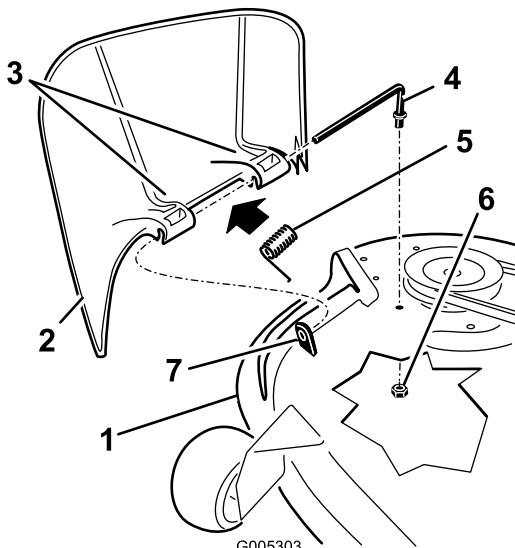

Figure 57
1. Locate items shown in Figure 57.
2. Remove the nut (3/8 inch) from the rod under the cutter deck (Figure 57).
3. Slide the rod out of the short stand-off, spring, and grass deflector (Figure 57). Remove the damaged or worn grass deflector.
4. Replace the grass deflector (Figure 57).
6. Place the spring on the rod, with end wires down, and between the grass deflector brackets. Slide rod through second grass deflector bracket (Figure 57).
7. Insert rod at front of grass deflector into short stand-off on deck. Secure rear end of rod into the cutter deck with a nut (3/8 inch) (Figure 57).